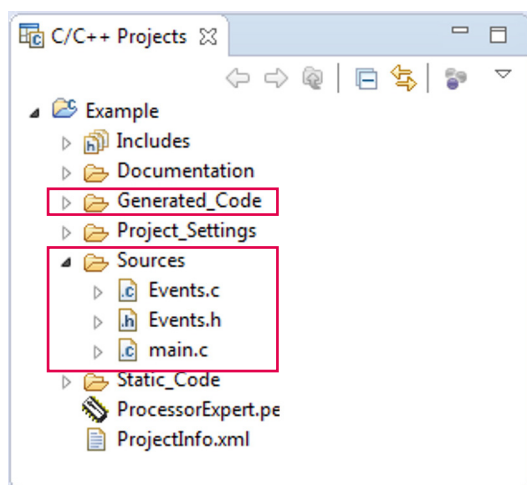

Figure 18. Source code locations
2. The driver code for the Battery Charger is generated into the **Generated_Code** folder in the **Project** panel. The component only generates the driver code. It does not generate application code. Figure 18 shows the locations of the generated driver source and the application code.